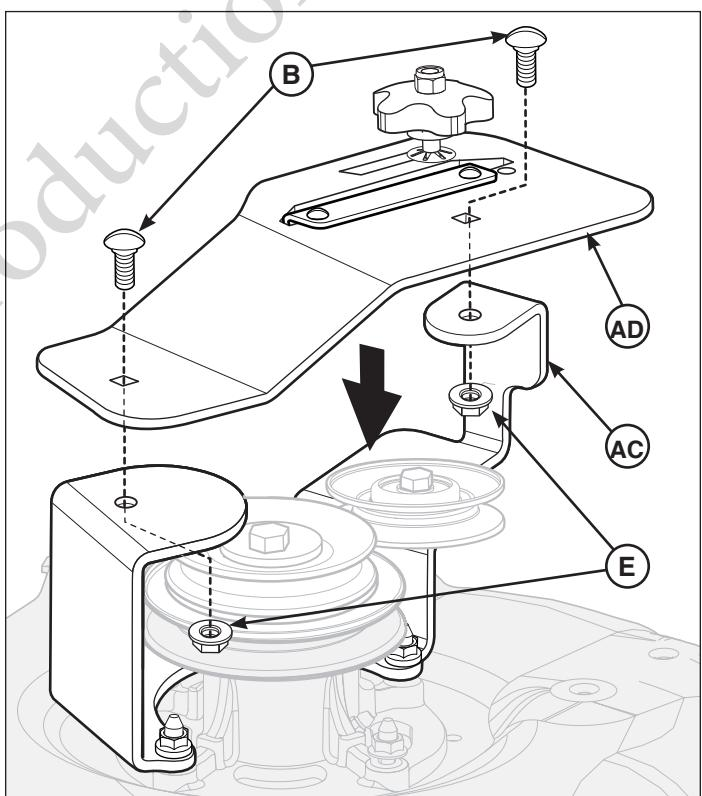

Figure 7
5. Place turbo belt cover (**AD**, Figure 7) onto idler cover support (**AC**).